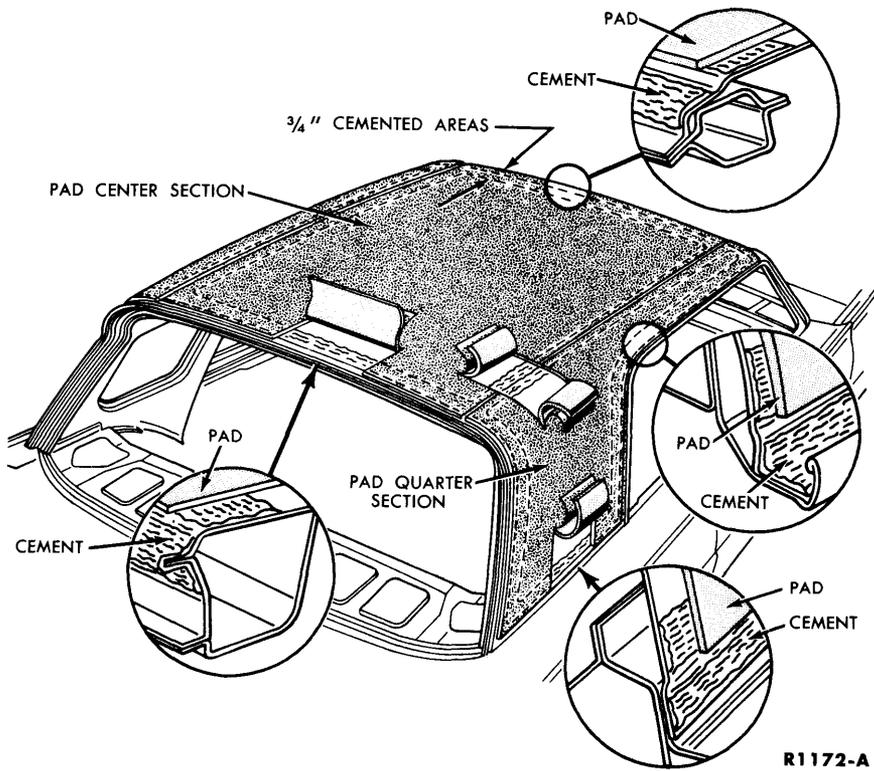

FIG. 71—Top Cover Pad Installation
1. When a new pad is being installed, carefully locate and cement the center and side pads to the roof panel. Adhesive should be applied to an area about 3/4 inch wide around the entire outside edge of each pad section (Fig. 71) and the corresponding areas of the roof panel. After the pad is secured, trim off any excess material.